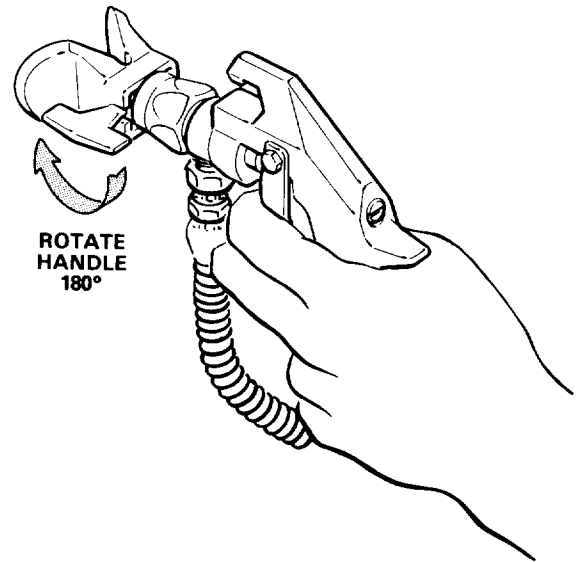

Fig 7
- b. If the spray tip does clog, release the gun trigger, engage the gun safety, and rotate the spray tip handle 180°. See Fig 7.